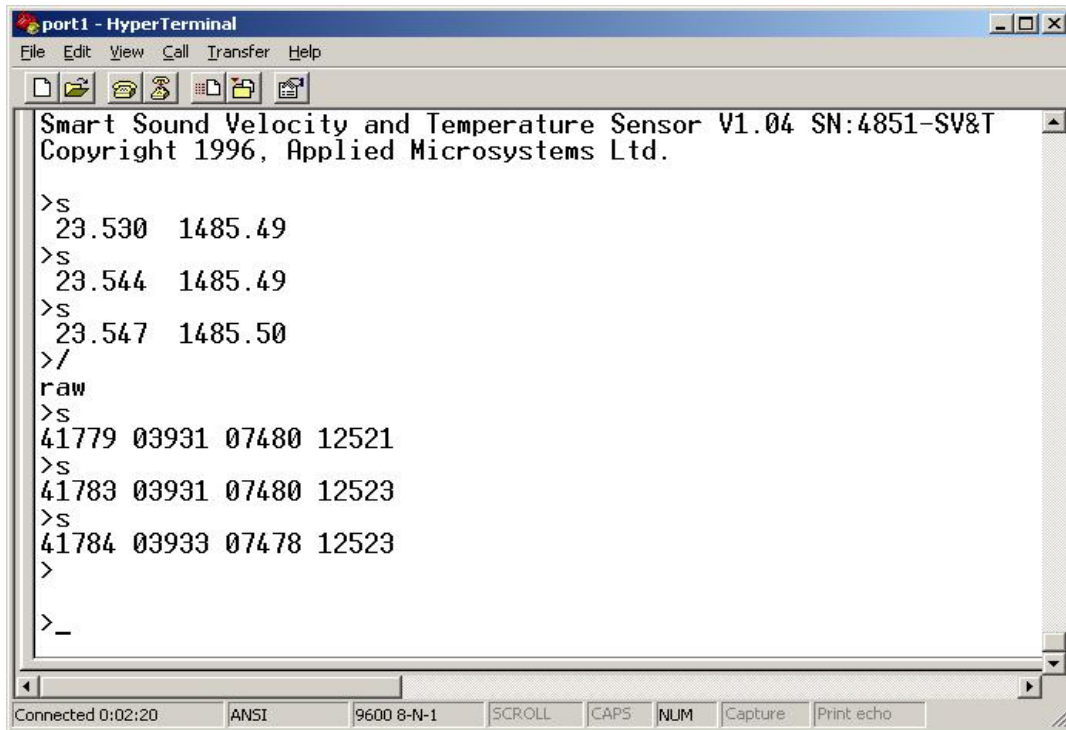

Figure 3-5
8. Press <Return> to start communicating with the instrument. (Figure 3.5)